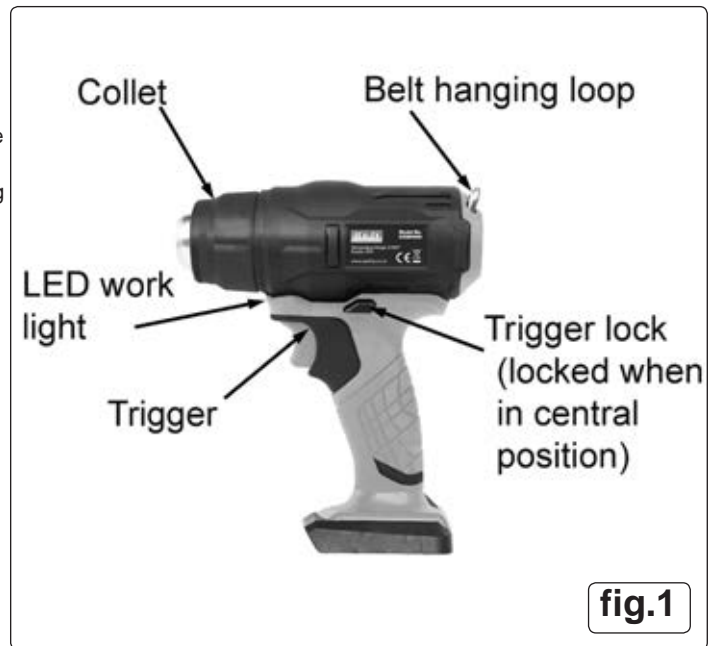

fig.1
- 4.2. **USING THE TOOL (fig.1)**
- 4.2.2. Refit battery ensuring that the switch locking mechanism is set to the 'locked' central position.(fig.1).
- 4.3.2. To remove a nozzle once it has cooled, rotate the collet (fig.1). The nozzle is then released and can be removed.